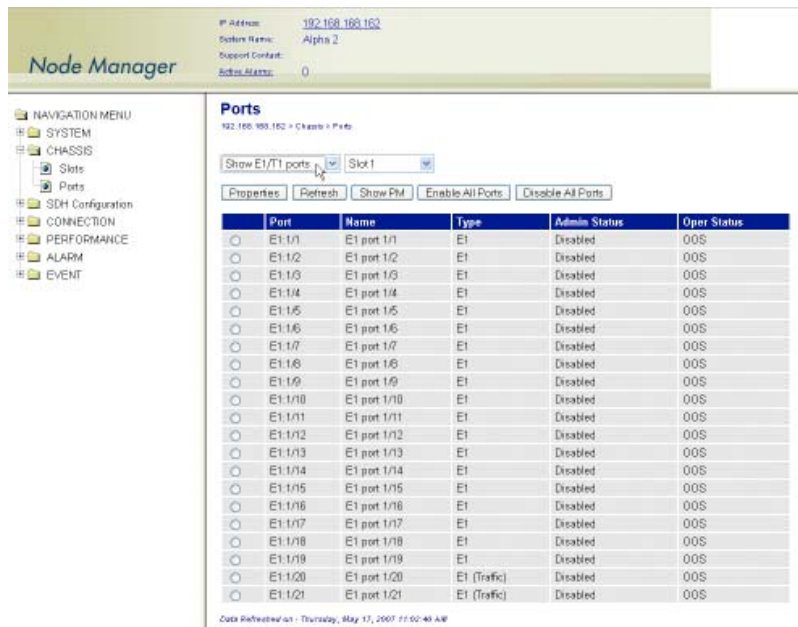
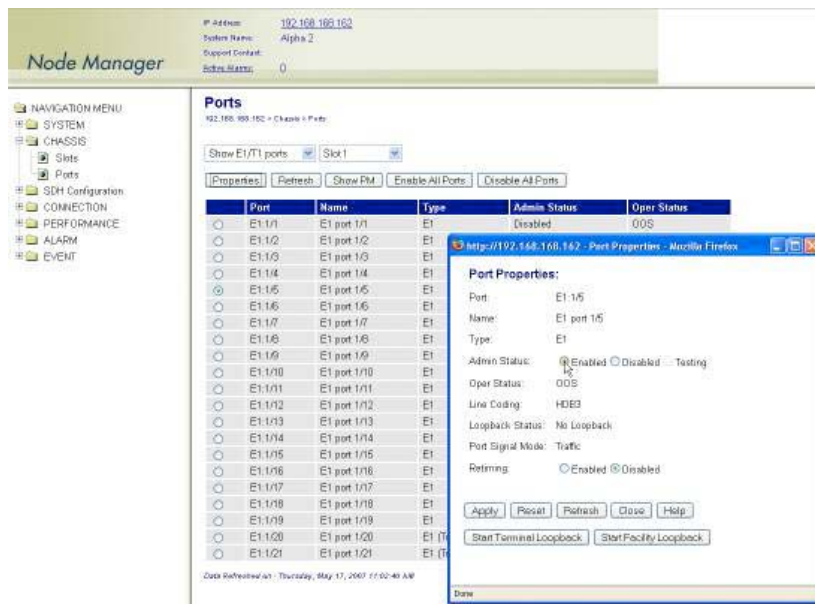

Figure 76. Displaying E1 and T1 Ports
Figure 77. Enabling an E1 or a T1 Port
To configure an E1 or a T1 port for service, see Figure 76 and Figure 77 on page 150 and follow these steps:
4. In the **Port Properties** window (see Figure 77 on page 150), set **Admin Status** to **Enabled**.
To enable the retiming feature for E1 ports in slot 1, see Figure 77 on page 150 and follow these steps: